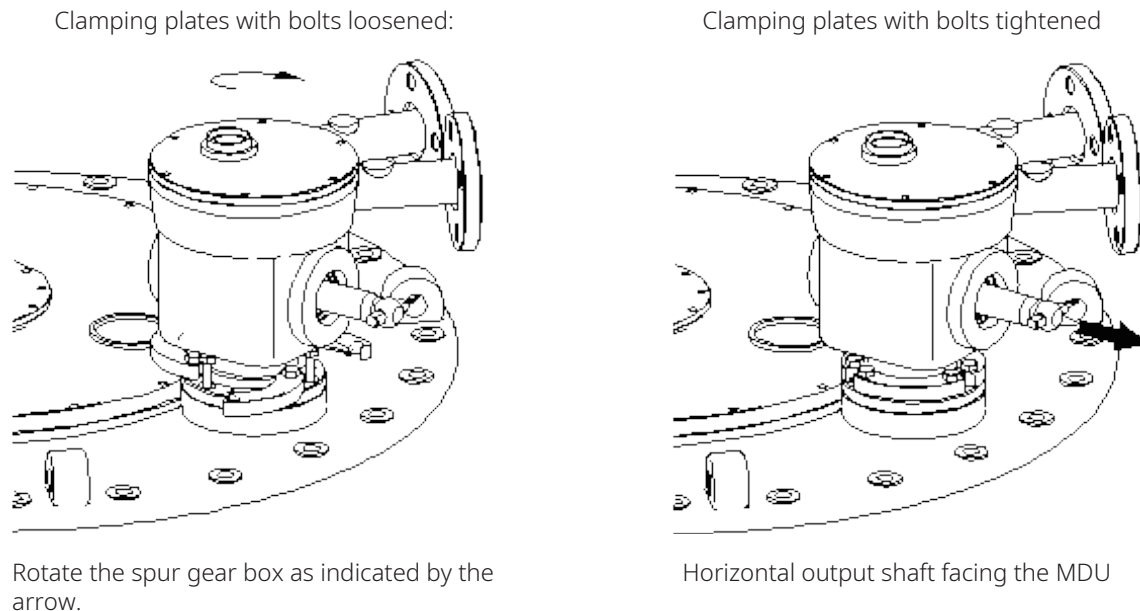

Figure 8-2 Adjusting and Securing the Spur Gear Box
3. Return the clamping plates to their original position and tighten the six bolts. Ensure the spur gear box is securely mounted and there is no movement (see Figure 8-2)..